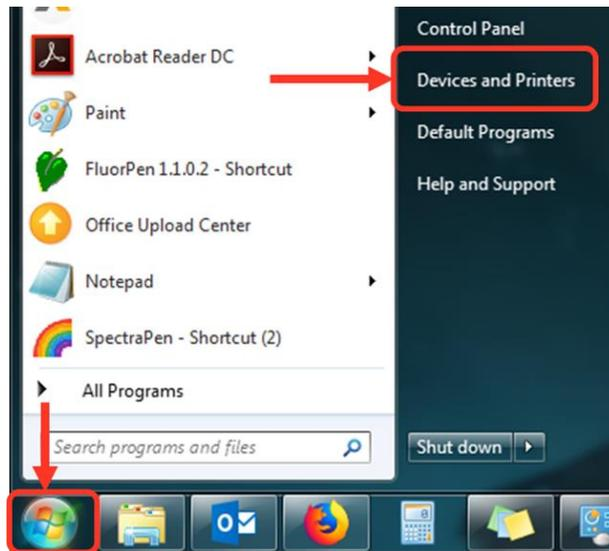

Fig. 13 Start Bluetooth Application.
- Select: **Start > Devices and Printers** (Fig. 13).